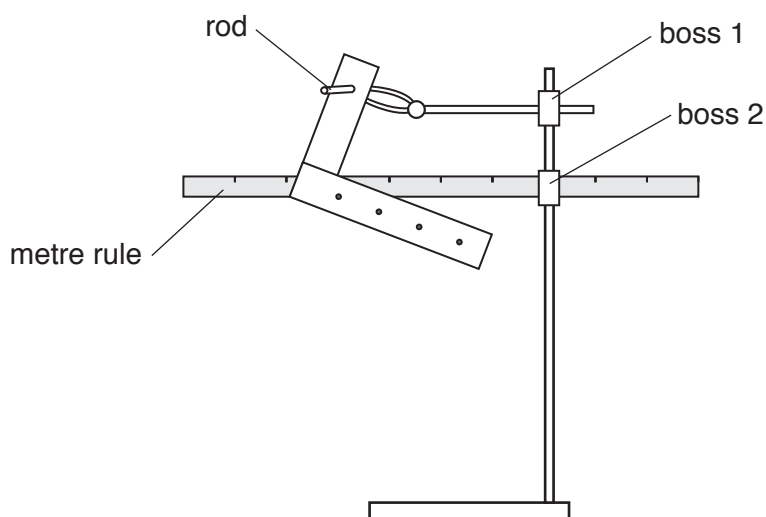

Fig. 3.2
- The supervisor should set up the apparatus as shown in Fig. 3.2.
At the changeover the supervisor must ensure that the apparatus is restored to the arrangement shown in Fig. 3.2. The metre rule should be horizontal by eye.